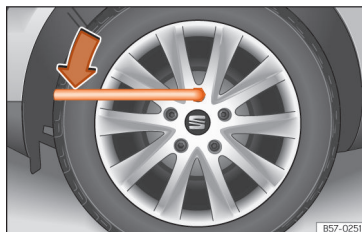

Fig. 196 Tyre change: loosen the wheel nuts.
- Fit the box spanner into the bolt as far as it will go **»» Fig. 196**.